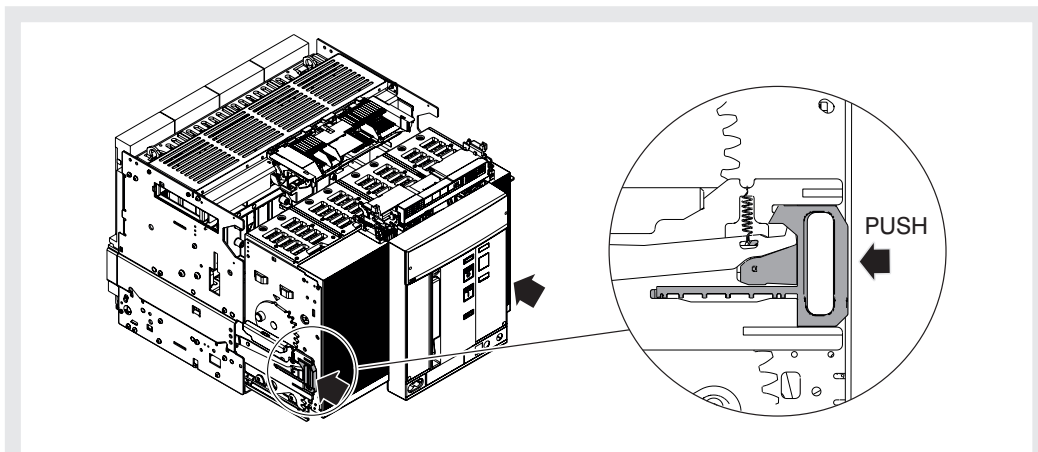

Figure 41
- 7. Grip the guide levers of the fixed part and push them until the moving part stops. See Figure 41.